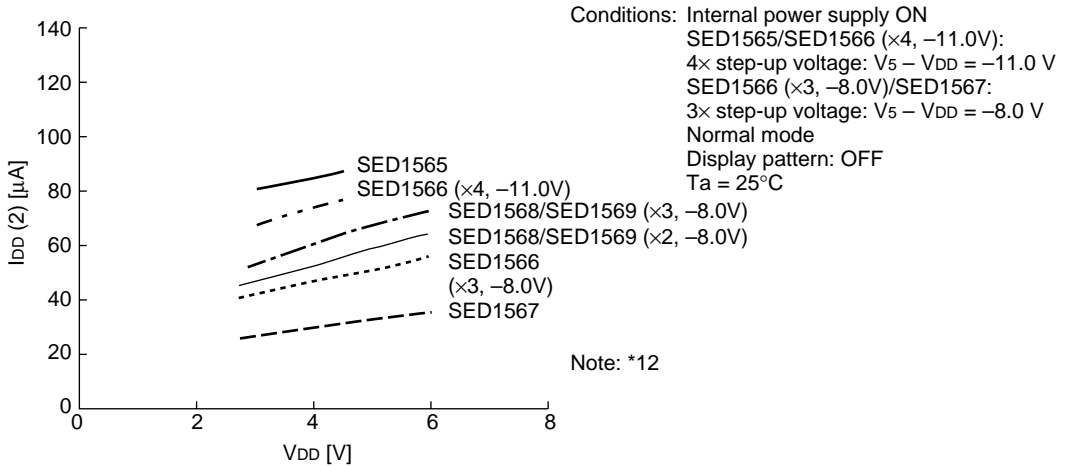

Figure 33
- *2 The operating voltage range for the V_{DD} system and the V_5 system is as shown in Figure 33. This applies when the external power supply is being used.
- *3 The A0, D0 to D5, D6 (SCL), D7 (SI), \overline{RD} (E), \overline{WR} (R/W), $\overline{CS1}$, CS2, CLS, CL, FR, M/S, C86, P/S, \overline{DOF} , \overline{RES} , IRS, and \overline{HPM} terminals.
- *5 The A0, \overline{RD} (E), \overline{WR} (R/W), $\overline{CS1}$, CS2, CLS, M/S, C86, P/S, \overline{RES} , IRS, and \overline{HPM} terminals.
- *6 Applies when the D0 to D5, D6 (SCL), D7 (SI), CL, FR, and \overline{DOF} terminals are in a high impedance state.
- *7 These are the resistance values for when a 0.1 V voltage is applied between the output terminal SEGn or COMn and the various power supply terminals (V_1 , V_2 , V_3 , and V_4). These are specified for the operating voltage (3) range.